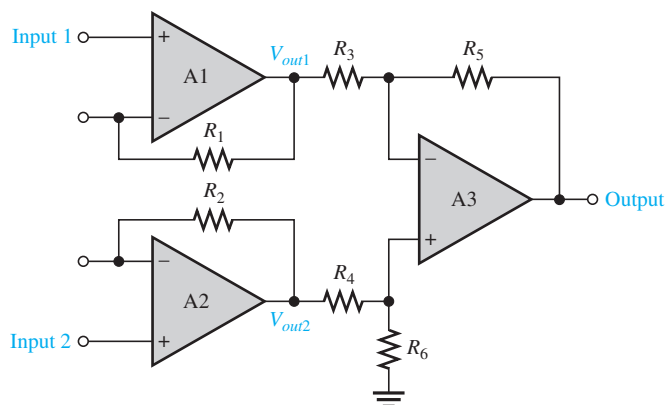

FIGURE 12–1 The basic instrumentation amplifier using three op-amps.
Figure 12–1 shows a basic instrumentation amplifier (IA) constructed from three op-amps. Op-amps A1 and A2 are modified voltage-followers, each containing a feedback resistor (R_1 and R_2). The feedback resistors have no effect in this circuit (and could be left out) but will be used when the circuit is modified in the next step. The voltage-followers